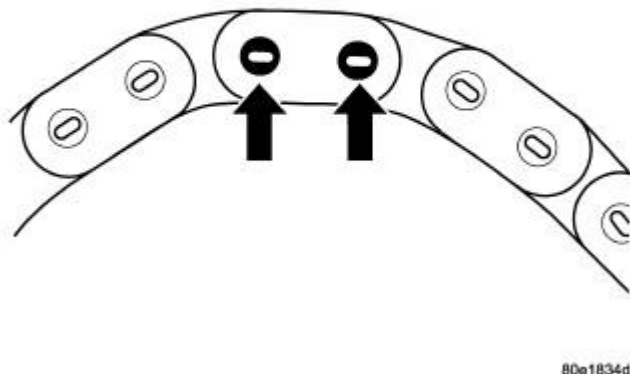

Fig. 304: Rivet Inspection
11. Assemble special tool 9312-1 with 9312-11A, and 9312-6 and position onto the timing chain. See **Fig. 304** .
13. Tighten spindle to firmly seat 9312-11A against chain. See **Fig. 304** . Repeat process for both link rivets.
14. Remove special tool and inspect rivets to ensure they have been properly peened. See **Fig. 304** . Repeat process if necessary.